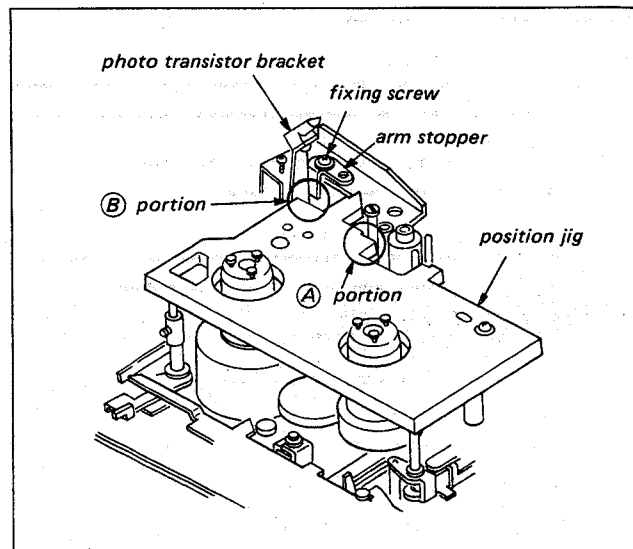

Fig. 4-11. Threading arm stopper adjustment (EJECT mode)
2. Install the Position Jig (Jig Ref. No. J-13) on the machine as shown in Fig. 4-11.
4. Check to see that two requirements are simultaneously met at (A) and (B) portions in Fig. 4-11.
5. Loosen the fixing screw of the Arm Stopper referring Fig. 4-11. Adjust the Threading Arm Stopper to meet the two requirements in step 4.
- ⌚ Clockwise rotation of the Arm Stopper makes the (A) in contact.
- ⌚ Counter-clockwise rotation of the Arm Stopper makes the (B) in contact.